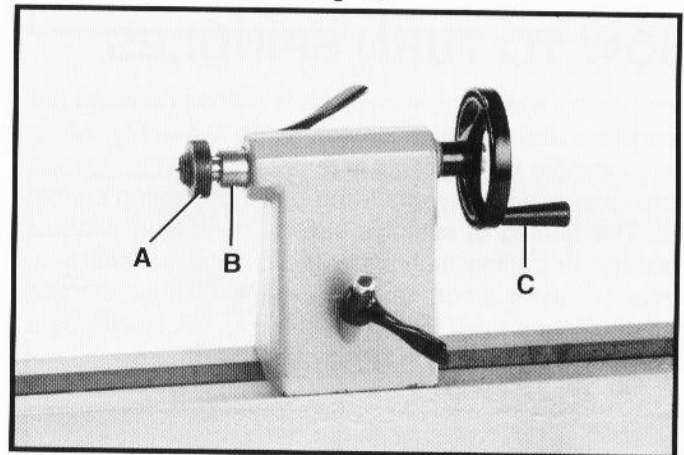

Fig. 31
The tailstock live center (A) Fig. 31, supplied with your lathe, is equipped with a No. 2 Morse Taper shank and is inserted into the tailstock spindle (B), as shown. To remove the tapered shank cup center (A) from the tailstock spindle, simply rotate handwheel (C) to move spindle (B) back into the tailstock body. This will push the live center (A) out of the spindle (B).